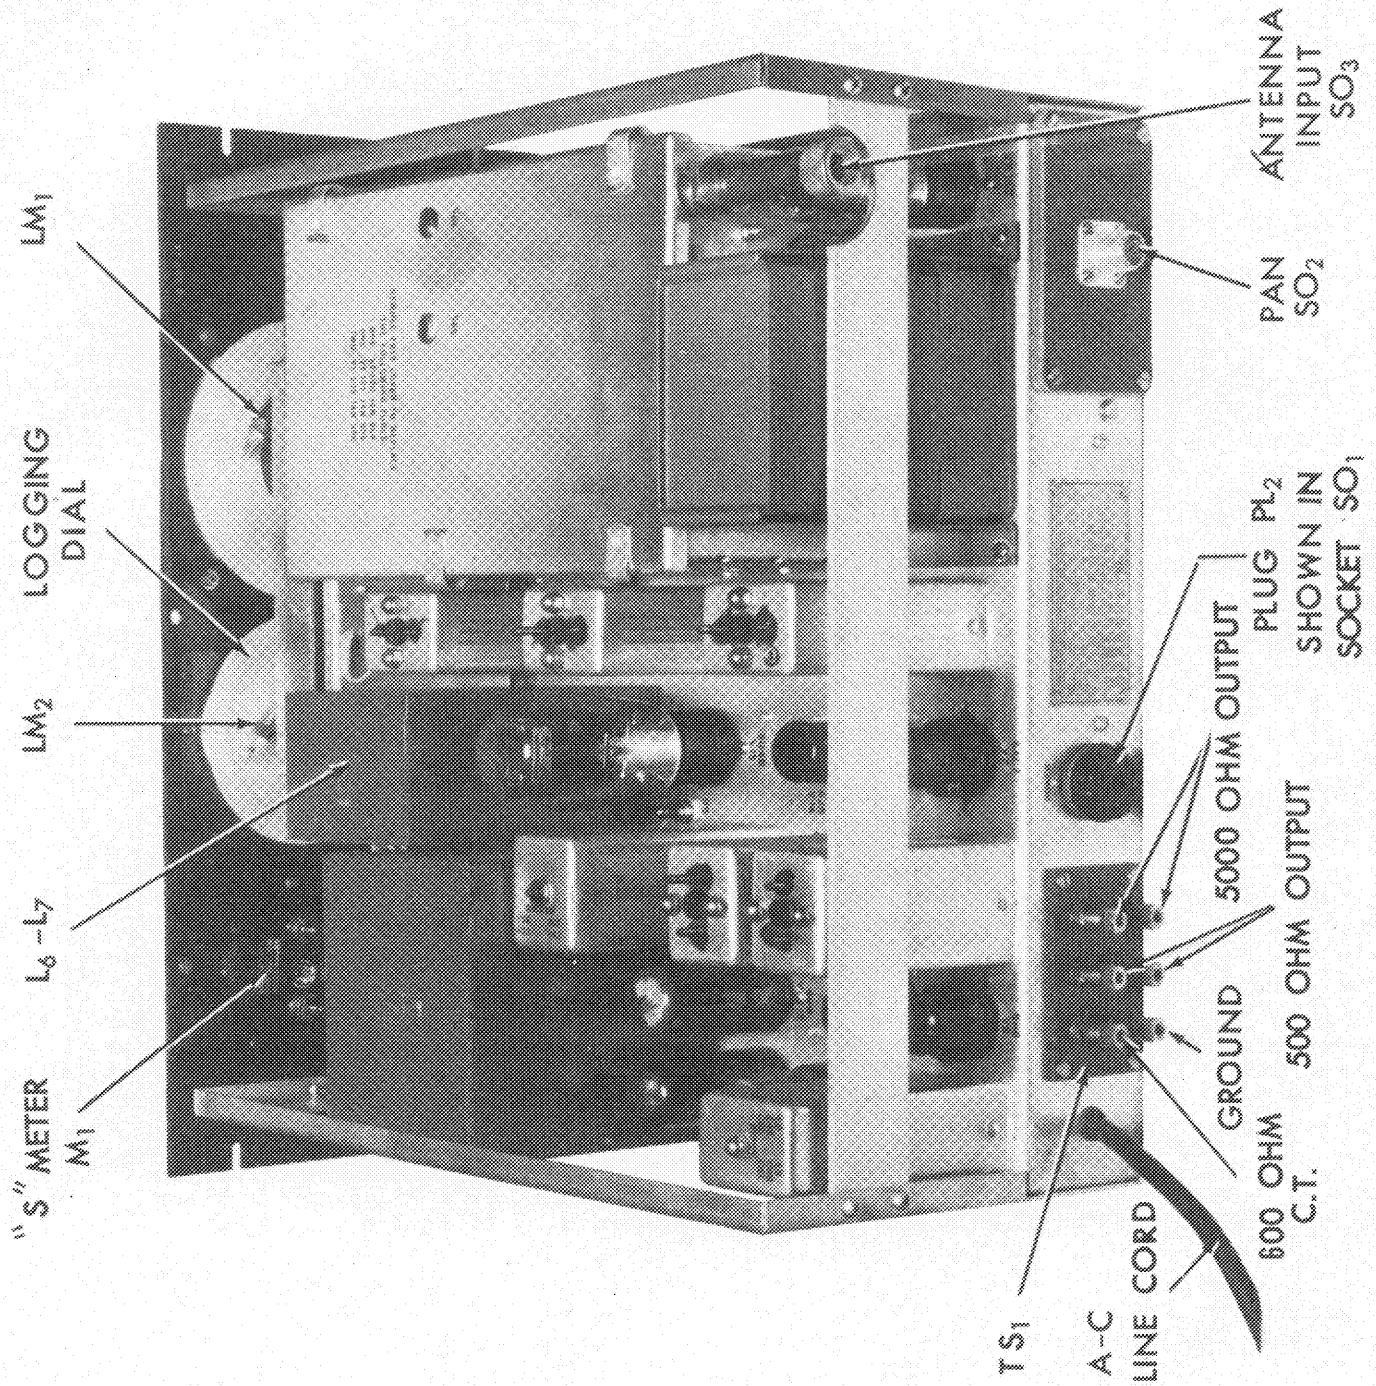

Figure 6. Radio Receiver CHL-46298, Top Rear View
| Figure 6. Radio Receiver CHL-46298, Top Rear View . . . . .               | 7           |
a. Signals picked up by the antenna enter the receiver through the antenna connector (SO3) at the rear of the cabinet. (Refer to figure 6). The signal is fed through the radiation suppressor tube V16 to the radio frequency amplifier tube (V1) through transformer T3. The secondary of this transformer (T3) is tuned by capacitor C1A and trimmed by capacitor C2.
d. A shielded lead from the plate circuit of the converter tube (V2) feeds the intermediate frequency signal voltage, through an isolating resistor (R8), to a panoramic adapter connection. This output connection is an Amphenol type 83-1R coaxial socket. It is located on the rear apron of the chassis. Refer to figure 6.